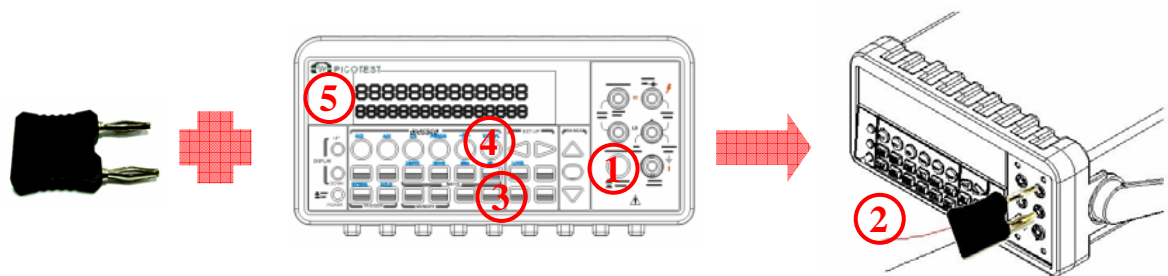

Figure 3-12
- ① Use terminals switch to select terminals on the front panel.
- ② To measure thermocouple must be via thermocouple adapter and the low thermal patch leads as shown in **Figure 3-12**. (When the mentioned modules are well connected as the following figure, please go to the next step.)
- ③ Configure the thermocouple type and unit using CONFIG + SHIFT + TEMP, such as K TYPE and °C. When ready, press ENTER button.
- ④ Press SHIFT + TEMP buttons.
- ⑤ Take the reading on the display.